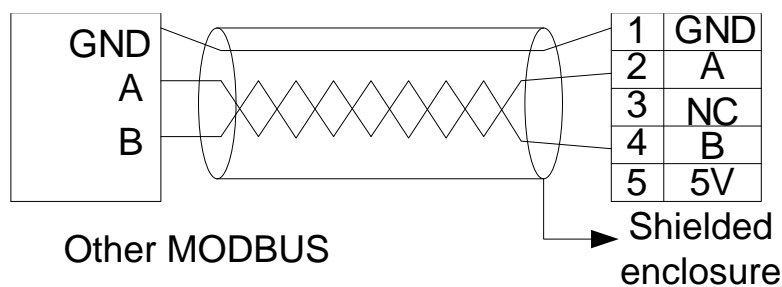

图 7.1
- (1) The address of the ASA (function code 16) must be in accordance with the control address of the controller; the baud rate (function code 17); even-odd check (function code 18) is the same as the controller; the parameter must be reset to power up
- (2) If not receiving the response data, the parameters should be set to check the above, the 485 terminal connection is correct, the CRC effect is correct.
- (3) More than one ASA communication, should be at the end of the last AB on both ends of the 120 ohm resistance
- (4) In connection with other MODBUS devices, as shown in Figure 7-1